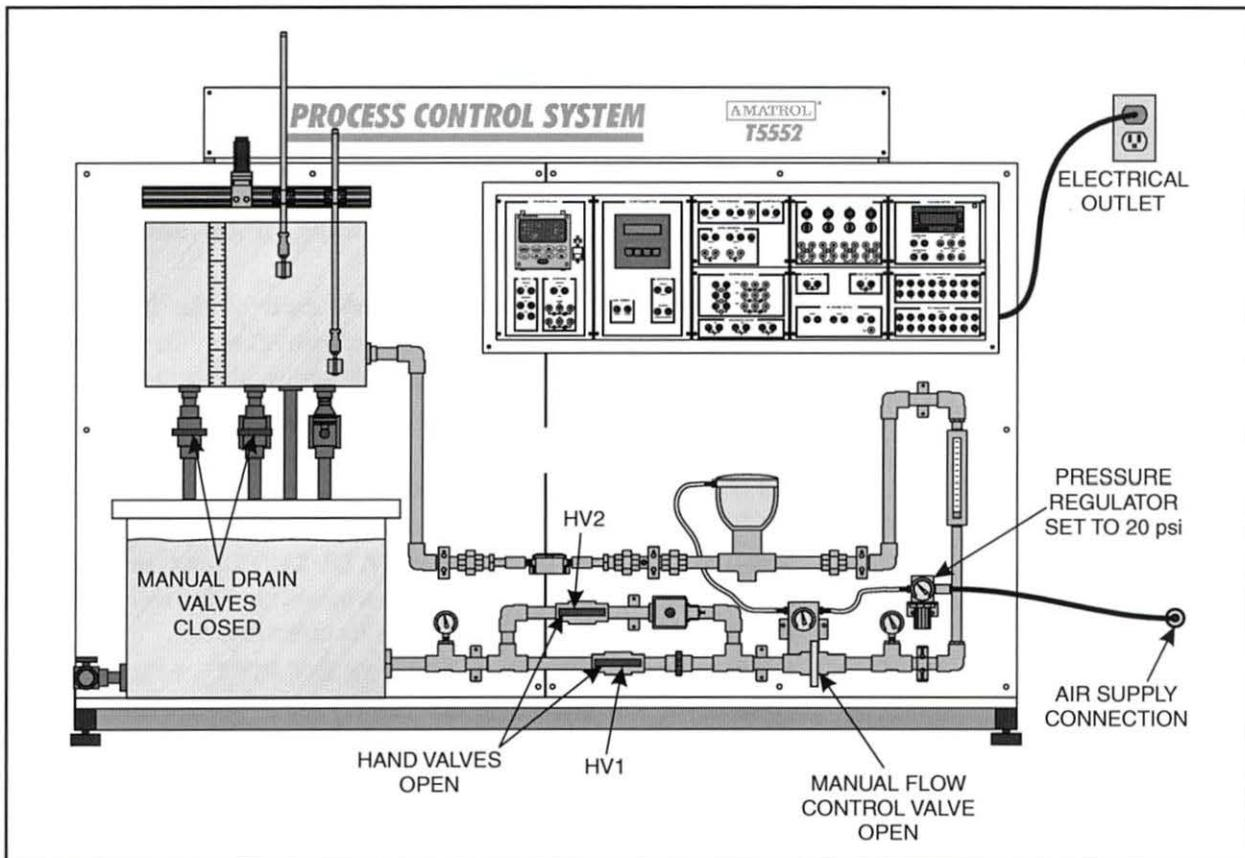

Figure 34. T5552 Setup
- 2. Perform the following substeps to set up the T5552, as shown in figure 34.